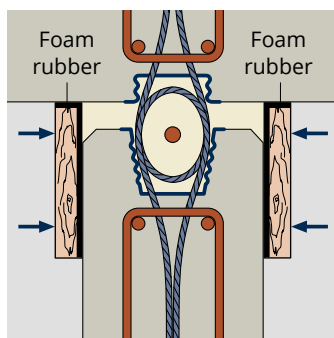

Figure 20
When a precast element connection is established using the VS®-ISI System^{3D}, the casting channel is automatically formed by rail profiles. This means that it is not necessary to provide any additional recessing blocks, depressions or the like. When inserting the VS®-ISI System^{3D} into the formwork, it is necessary to ensure that the wire rope ends are threaded as straight as possible between the reinforcements. Starting from the lowest point of the element, the profiles are then simply nailed into place with the loops at the same height for both elements (Fig. 20), or attached with hot-melt adhesive in the case of steel formwork. Fixing the loops to the mesh reinforcement with wire prevents the rails and loops from slipping out of place. The anchorages for the wire rope ends are to be arranged at 90° to the joint.
In case of installation variants deviating from Fig. 20, PFEIFER Application Consulting must be contacted if **increased formwork pressure** is to be expected as a result. This is the case, for example with upright or battery formwork!
1. Board formwork (Fig. 20)